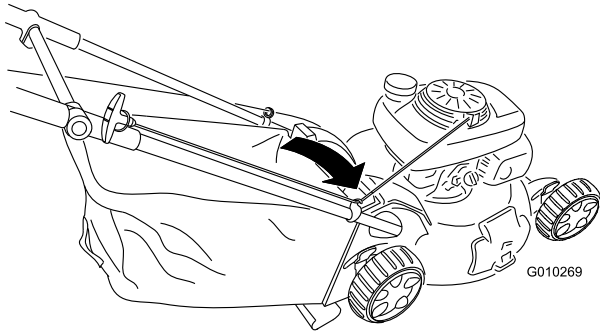

Figure 31
1. Route the starter rope around the lower rope guide (Figure 31).